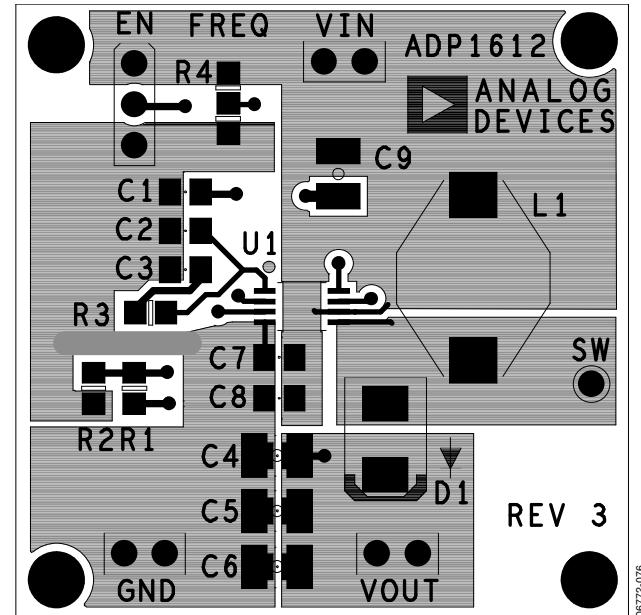

Figure 76. Example Layout for ADP1612/ADP1613 Boost Application
- Keep the low ESR input capacitor, C_{IN} (labeled as C_7 in Figure 76), close to VIN and GND. This minimizes noise injected into the part from board parasitic inductance.
- Keep the high current path from C_{IN} (labeled as C_7 in Figure 76) through the L1 inductor to SW and GND as short as possible.
- Keep the high current path from VIN through L1, the rectifier (D1) and the output capacitor, C_{OUT} (labeled as C_4 in Figure 76) as short as possible.
- Connect the softstart capacitor, C_{ss} (labeled as C_1 in Figure 76) as close to the device as possible. Connect the ground of the softstart capacitor to an AGND plane that makes a Kelvin connection to the GND pin.